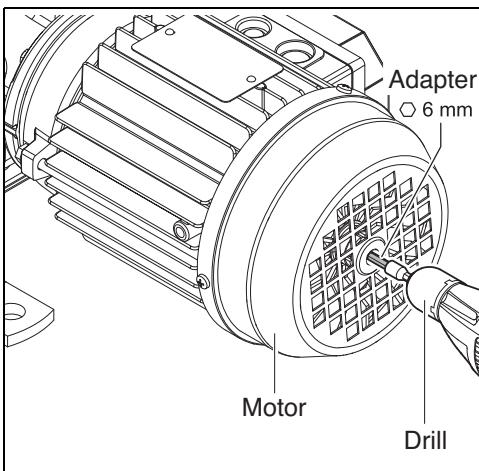

Fig. 32
- Connect a drill with an adapter hexagon 0.24 in (6 mm) or Torx /TX T 40. Minimum tool length: 1.75 in (45 mm) (see Fig. 32).